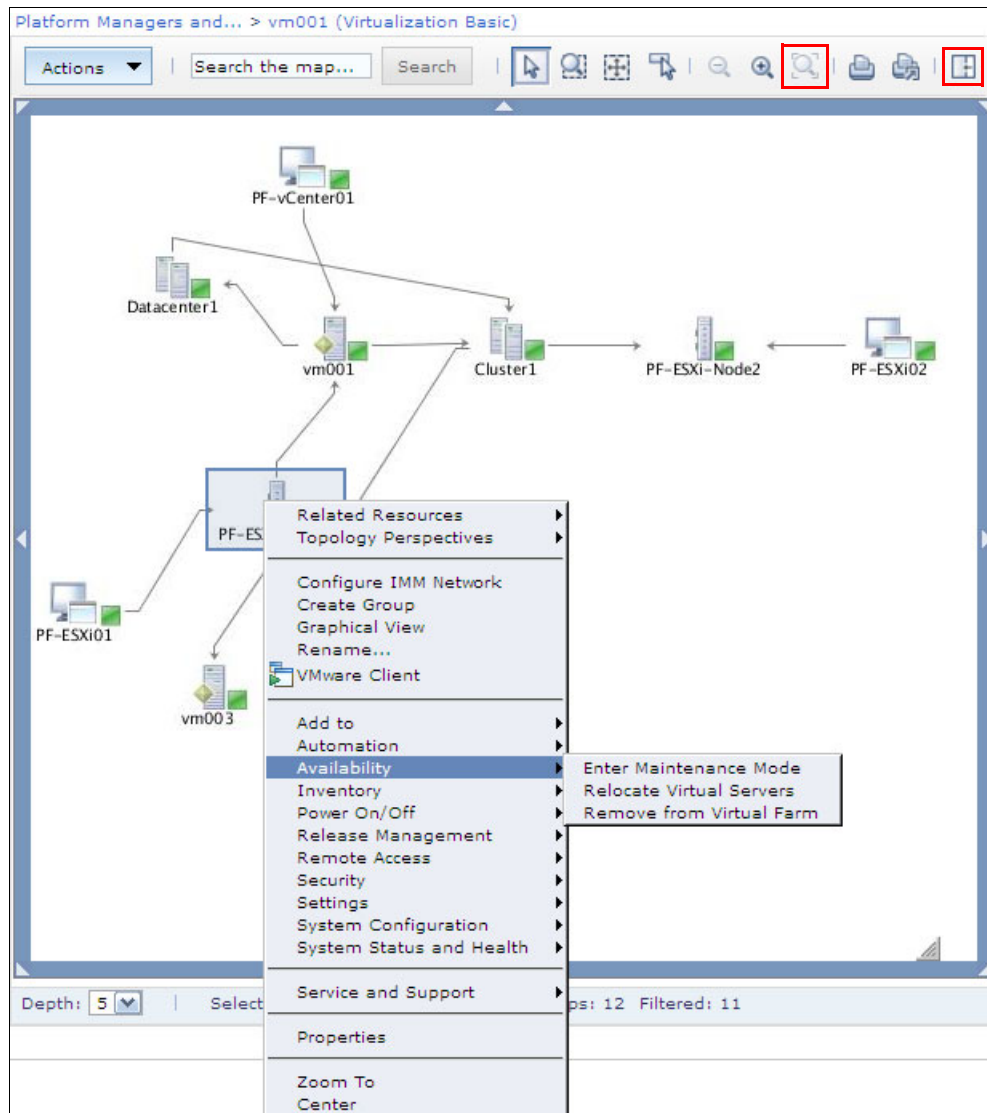

Figure 11-65 Menu items in the Virtualization Basic Topology view
- Click the **Hide Palette View** icon and **Zoom To Fit** icon to get a full diagram of the base components of your virtual infrastructure. Right-click any component to get the Actions menu that is relevant to the selected component, as shown in Figure 11-65.